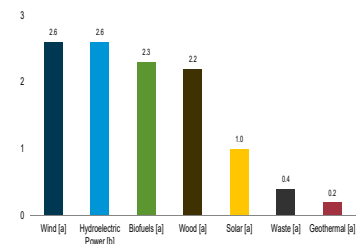

Figure 2.6: Energy from US renewable sources in 2019, in quads, from Dec 2020 MER.
- 8.8% from other renewable sources, as detailed in Figure 2.6.